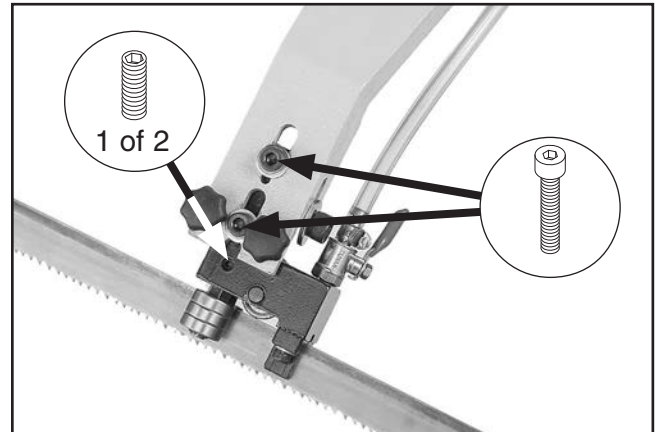

Figure 85. Screws for adjusting blade-to-table squareness.
- If blade *is not* square with table, loosen two cap screws shown in **Figure 85** one to two turns and repeat on second blade guide assembly, then turn set screws on blade guides as necessary until blade is perpendicular to bed.